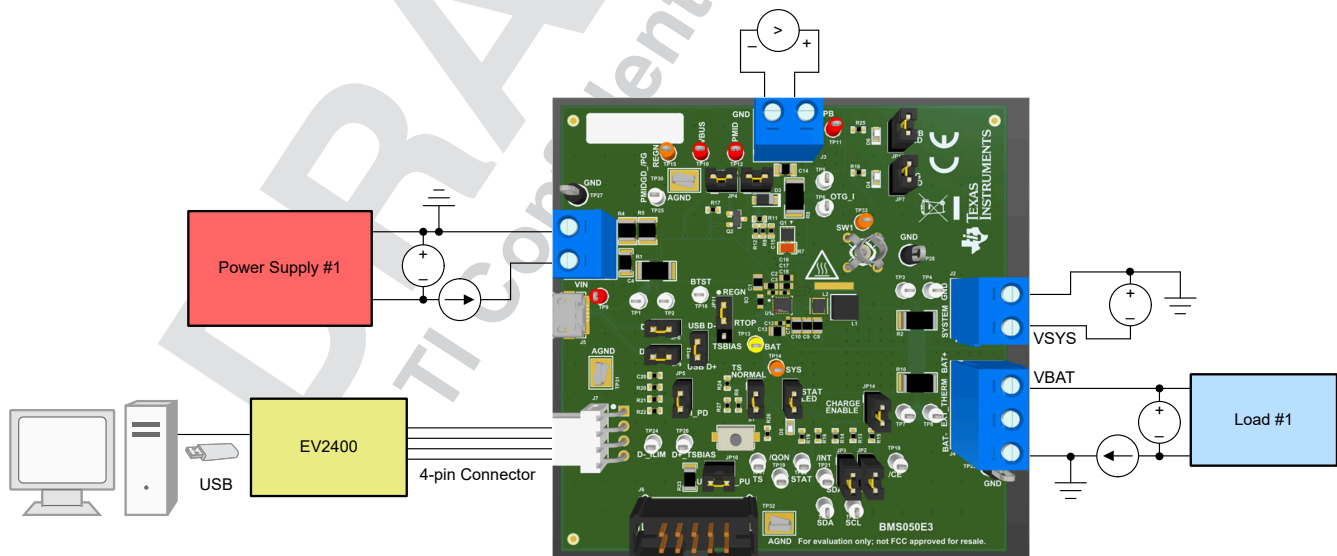

Figure 2-1. Test Setup for BQ25620EVM and BQ25622EVM
5. Turn on Load #1, set to constant voltage mode, and output to 2.5-V. Disable Load. Connect Load in series with a current meter (multimeter), ground side, to J4 (BAT and PGND) as shown in Figure 2-1 in not using a source meter with current measuring capabilities.
6. Connect a voltage meter across TP13 (BAT) and TP30 (PGND), or across J4-3 and J4-1 as in Figure 2-1
7. Connect a voltage meter across TP14 (SYS) and TP30 (PGND), or across J2-1 and J2-2 as in Figure 2-1
8. Connect a voltage meter across TP12 (PMID) or TP11 (VPB) and TP32 (PGND), or across J3-1 and J3-2 as in Figure 2-1
9. Connect the EV2400 USB interface board to the computer with a USB cable and from I2C port to J5 with the 4-pin cable as in Figure 2-1
10. Install shunts as shown in Table 1-3. Note that the shunts in Figure 2-1 are not necessarily installed per the table.